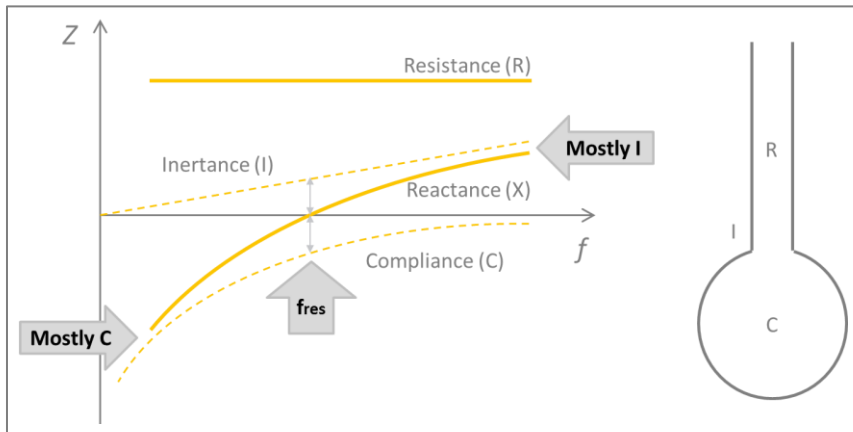

Figure 2.2: Resistance & Reactance
As illustrated in Figure 2.2, R is normally expected to be frequency-independent for an adult lung [5,6], resulting in a horizontal line. On the other hand, X is a negative number at low frequencies, but crosses into positive territory as frequency increases. If X were determined by C only, it would remain entirely negative. In contrast, if C were absent and X were entirely determined by the inertance (I) of the mass being oscillated, X would be positive only. Since C and I coexist in reality, and given their individual characteristics, studies [5] have found that in the normal lung,